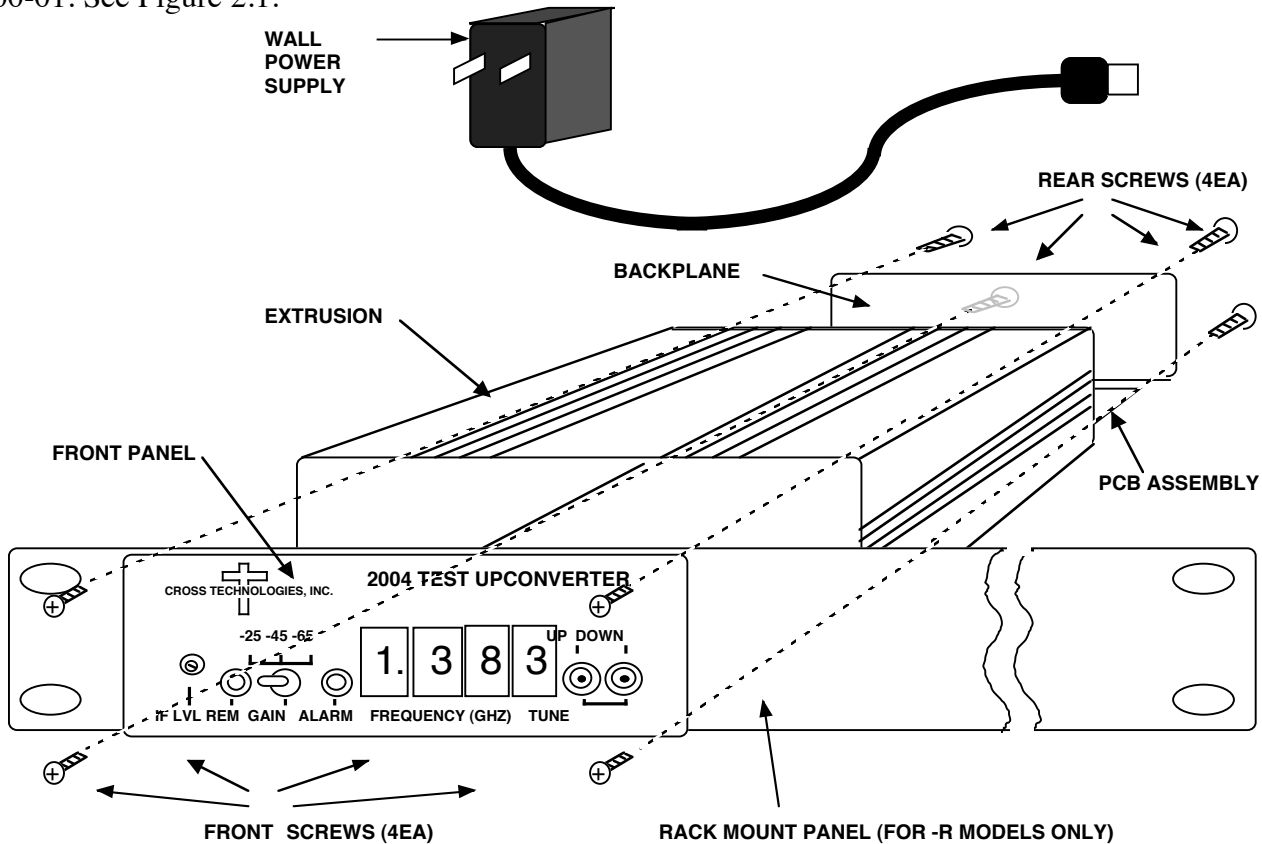
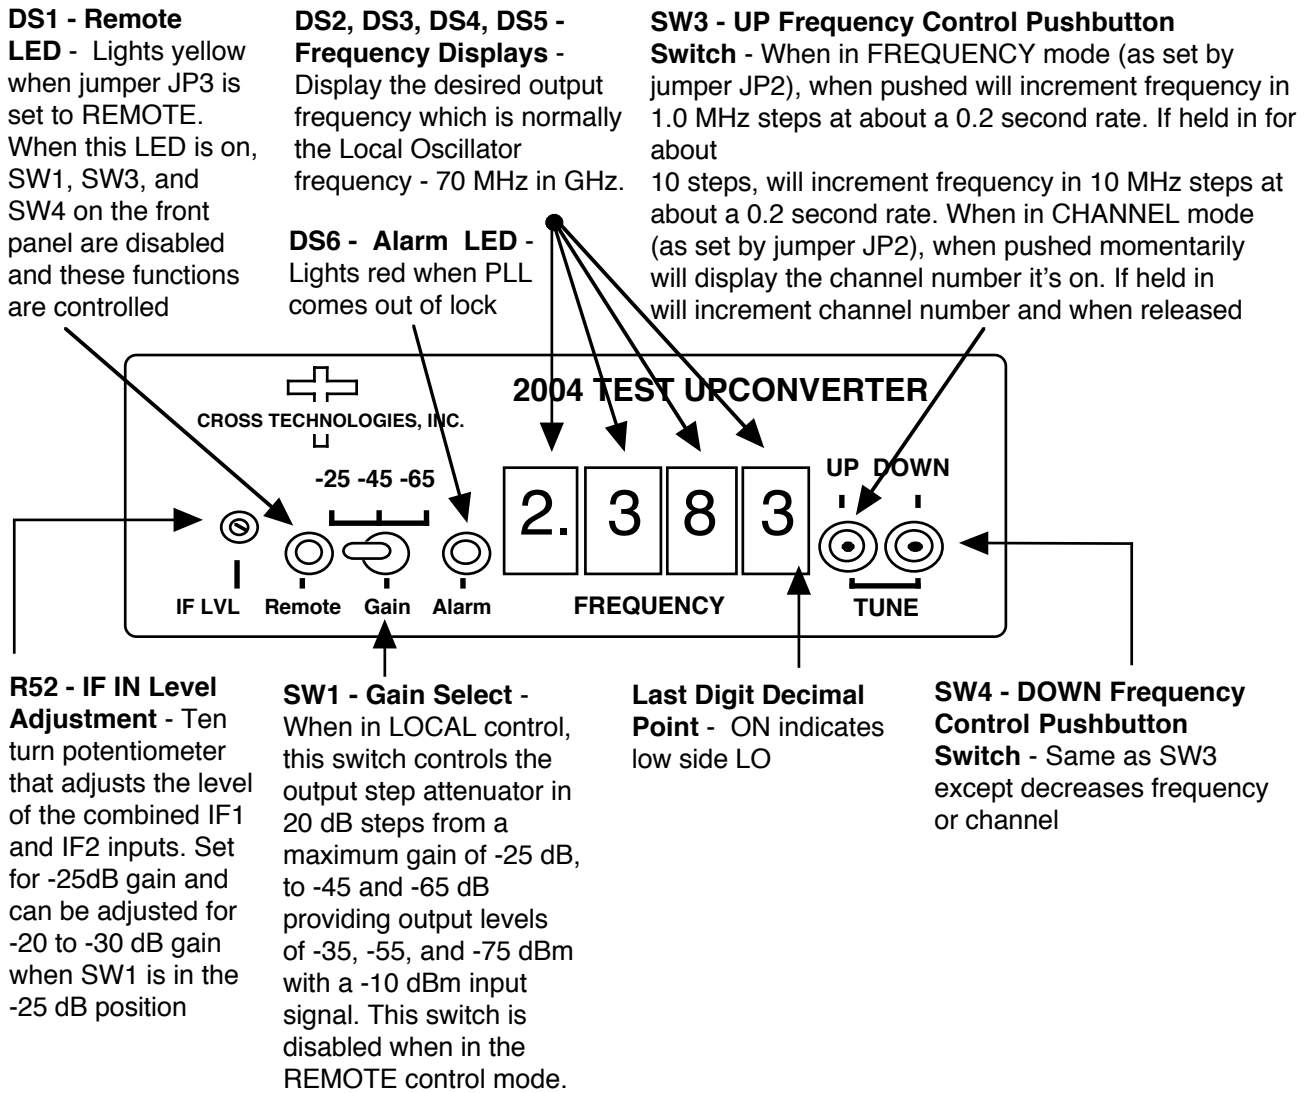
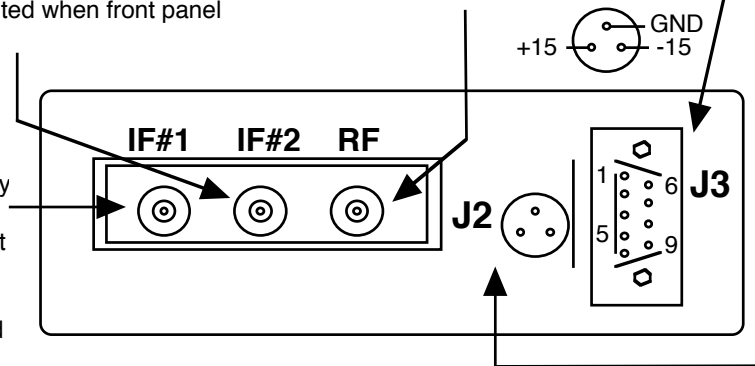
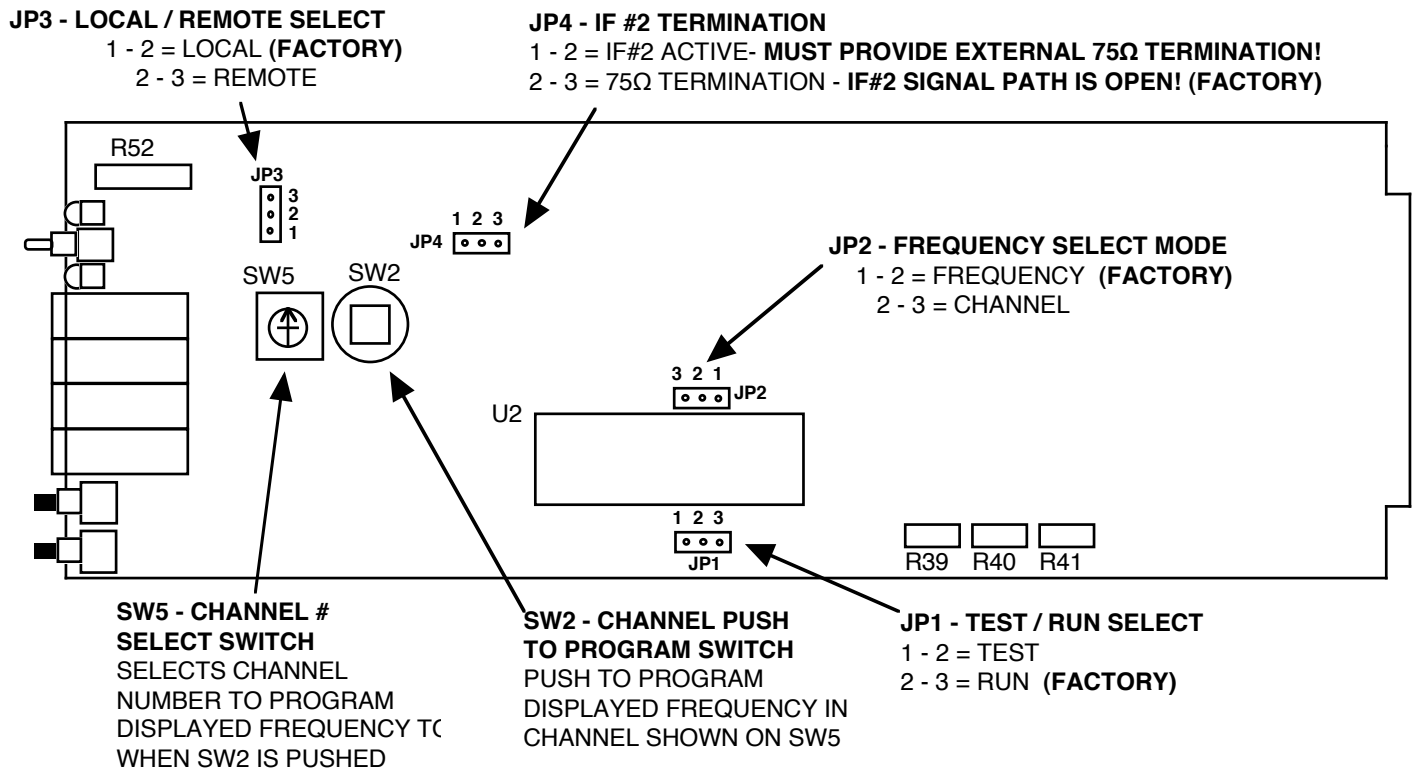

FIGURE 2.1 SERIES 2000 ASSEMBLY DRAWING
FIGURE 2.2 2004-10 Front Panel Controls and Indicators
FIGURE 2.3 2003 and 2004 Inputs and Outputs
FIGURE 2.4 2003 and 2004 On-Card Jumpers and Controls (See Section 2.4 for instructions on removing the PCB from the extrusion)
2.1 Mechanical - The 2004-10 and 2004-10R are packaged in an aluminum extrusion. The 2004-10R is mounted on a 1 3/4" X 19" panel that can be mounted to a rack using the 4 holes at the ends. Both units derive $\pm 15V$ from the wall power supply or an external regulated power supply such as the Cross Technologies, Inc. mode 2000-01. See Figure 2.1.
2.2 Controls and Indicators - Figure 2.2 shows front panel controls and indicators.
2.3 Input / Output Signals - Figure 2.3 shows the input and output signals to the 2004.
2.4 Accessing and Changing On-Card Jumpers and Controls - Figure 2.4 shows jumpers (with factory settings) and other on-card controls. To remove the printed circuit board (PCB) from the extrusion for access to the jumpers and controls:
- 1.) Remove four (4) **rear panel screws** (see Figure 2.1).
- 3.) With the **wall power supply disconnected**, move jumpers to the desired positions (Figure 2.4).
- 7.) Install four (4) **rear panel screws**.
- 1.) If required, check that on-card jumpers are set to the desired positions (Figure 2.4)
- 2.) Connect the wall power supply to the 2004-10 and the wall power supply to 115 VAC, 60 Hz (Figure 2.1)
- 3.) Connect a -10dBm signal to IF #1 In (Figure 2.1, Figure 2.3)
- 4.) Connect a -10dBm signal to IF #2 In (Figure 2.1, Figure 2.3). If this port is not used it must be terminated in 75Ω by connecting on-card jumper JP4 in the 2-3 position (Figure 2.4).
- 5.) Set the desired frequency by pushing SW3 or SW4. If numbers 0 to 9 appear when pushing SW3 or SW4, the 2004-10 is set for the channel mode (with on-card jumper JP4, Figure 2.4). See section 2.5.2 for frequency setting information.
- 6.) Set SW1 for the desired gain (Figure 2.2).
- 7.) Be sure DS1 and DS6 are off (Figure 2.2).
- 8.) If needed, R52 can be adjusted (Figure 2.2) for input signals that are different than -10 dBm (-5 to -15 dBm). Note that this adjusts the levels of both IF #1 and IF #2 and uncalibrates the 2004-10 from its -10 dBm input setting
- 2.) **To go to the change modes function**, simultaneously **press and release both the Up and Down pushbutton** switches (SW3 and SW4, see Figure 2.2).
- 5.) **To check the selected IF frequency**, momentarily **press and release both the Up and Down pushbutton** switches (SW3 and SW4, see Figure 2.2)
2.5.4 Frequency Setting, Channel Mode - A second tuning mechanism is channel selection. This is accomplished when the on board three-pin jumper (JP2) (Figure 2.4) is set to the “channel” position. Ten preset channels (0-9) can be selected as follows:
1. The 2004-10 PCB is removed from the extrusion (see section 2.4 for instructions) to access the channel selecting decimal switch (SW5) and the push to program switch (SW2) (Figure 2.4). With the display mode jumper (JP2) set in the frequency mode, the frequency set switches (SW3,SW4) are pushed to the frequency desired (Figure 2.2).
2. The decimal switch (SW5) is set to the channel number desired to be programmed (Figure 2.4).
3. Push programming button (SW2) to program the displayed frequency into that channel number (Figure 2.4).
5. When finished, set JP2 (Figure 2.4) in the “Channel” position if this tuning mechanism is desired.
2.5.5 Remote Operation - Frequency control and setting of the output attenuator can be remotely commanded from an external (not supplied) PC using a simple DOS program. To place the 2004-10 in the Remote mode, place on-card jumper JP3 in the REMOTE (pins 2-3) position (Figure 2.4) and observe yellow LED DS1 (Figure 2.2) is on. Serial ASYNC (8N1) data is received via RS232C receiver U4 and sent via RS232C transmitter U13 at a 9.6kB/s data rate. When in the remote mode, either frequencies or channel numbers can be provided, but programming the frequencies of the channels can only be done locally. When in the remote control mode, the selection of U6 and consequently the output attenuator U16, U24 is controlled through the remote serial port disabling the function of front panel attenuator control switch SW1 and providing gain selection of -25 dB, -45 dB or -65 dB.
The remote control program sends commands to the 2004-10 through pin 3 of the DB9 connector, J3 (Figure 2.3). Pin 3 is an RS-232 serial port set to accept 8N1 formatted data. Each command sent to the 2004-10 consists of an instruction byte followed by one or two bytes of data. The 2004-10 acknowledges receiving and successful executing each remote control command by sending an **acknowledge byte** (9600 baud, 8N1 format) through pin 2 of the DB9 connector, J3.
3.2.3 Frequency Setting, Channel Mode - A second tuning mechanism is channel selection. This is accomplished when the on board, but not front panel accessible, three-pin jumper (JP2) (Figure 2.4) is set to the “channel” position. Ten preset channels (0-9) can be selected as follows: